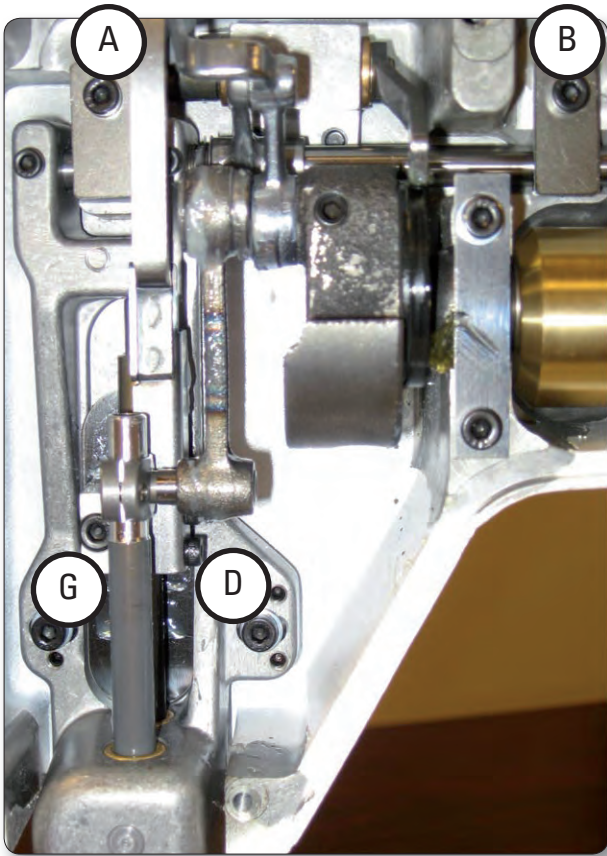

Figure 8.2
- Loosen first screws D and G (Figure 8.2)
- Loosen screw A and screw B (Figure 8.2)
- Tighten screws A and B in Figure 8.2.